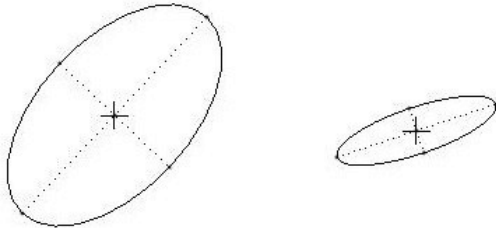

Figure 3-34 Ellipses
Step 29: Use  and  to create two ellipses similar to the ones shown in Figure 3-34.